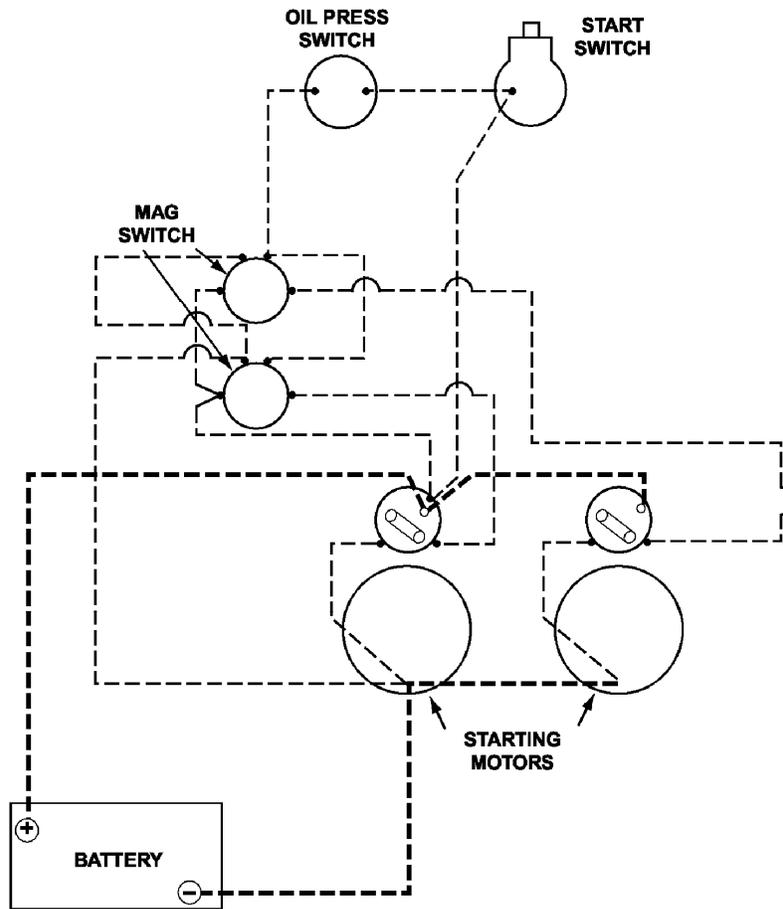

Figure 5
For correct size and correct circuit for starting system components, see wiring diagrams provided with the engine or the Operation and Maintenance manual. Sample diagrams are shown at the end of this section in **Figure 5** and **Figure 6**. All control wiring must be protected by fuses or a manual reset circuit breaker. The main battery cables need not be fused. These may or may not be shown on the wiring diagrams. Fuses and circuit breakers should have sufficient capacity and be readily accessible for service.
- For 3600 applications with electric starting, use separate batteries for starting and control systems, as shown in **Figure 5** at the end of this section.